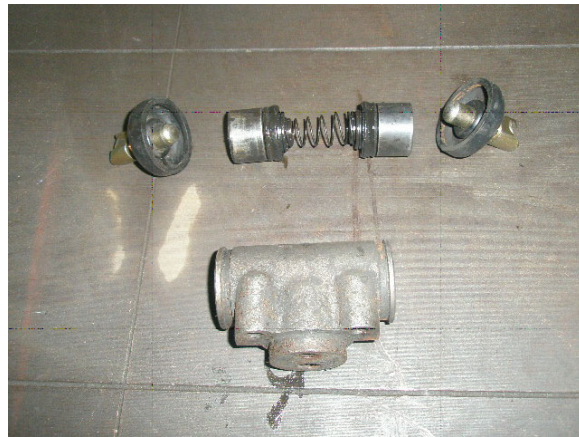

Fig 5-13
- (7) Remove the shield from wheel cylinder, and push out all the parts inside the cylinder (Fig 5-13)